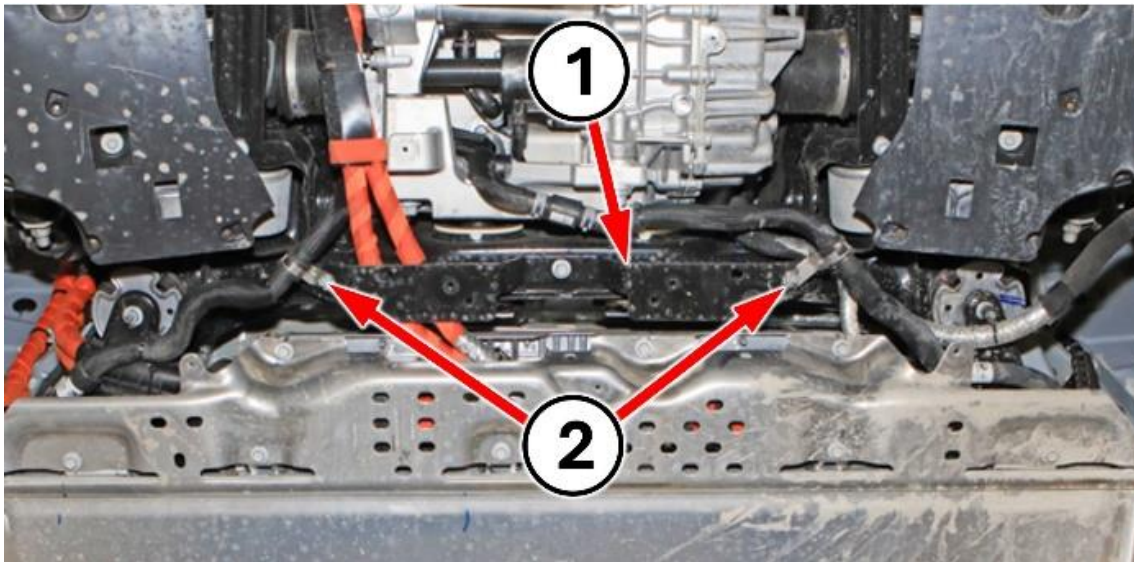

Figure 15 – Coolant Hoses
- 35. Remove the bolts securing the coolant hoses to the rear cradle bracket (Figure 15).